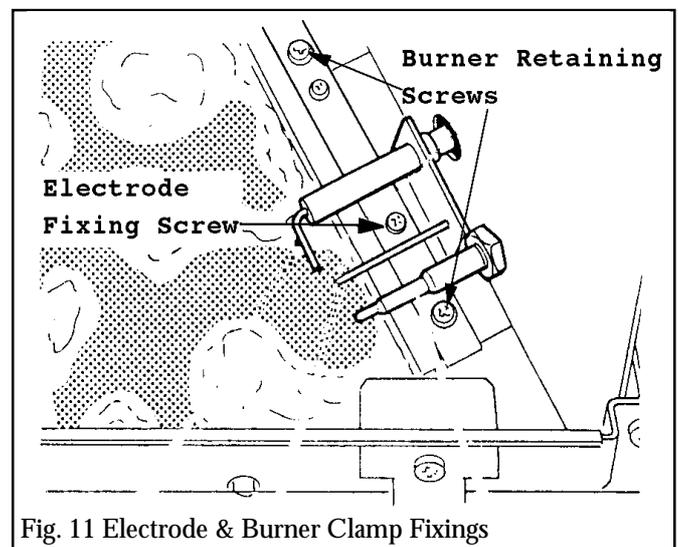

Fig. 11 Electrode & Burner Clamp Fixings
15.5.5 Remove the screw holding the electrode bracket to the right hand side of the main burner (see Fig.11).
15.11.5 Remove the screw holding the electrode bracket to the right hand side of the main burner (see Fig.11). Withdraw the electrode.
15.11.9 Remove the four large screws at the burner sides (two each side - see Fig.11).